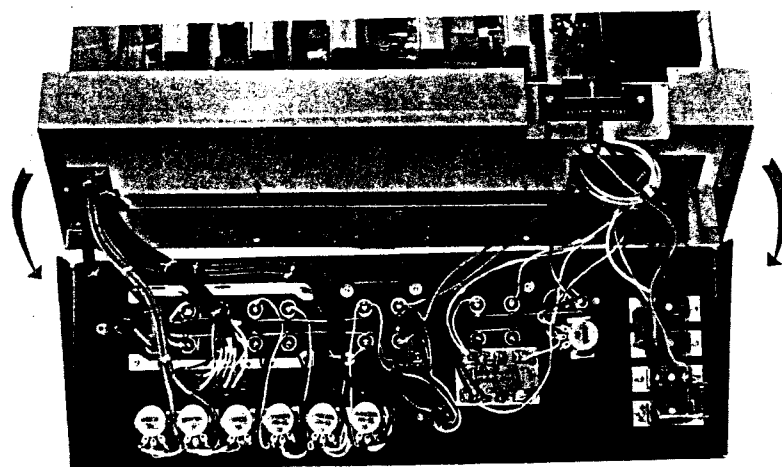

Fig. 2-5. Removal of Back-Panel Ass'y
- Turn the unit over and remove the four self-tapping screws (+RF3 $\phi$   $\times$  6) at the back bottom of the chassis. The Back Panel Assembly is now free, and may be tilted backward and down as shown in Fig. 2-5.